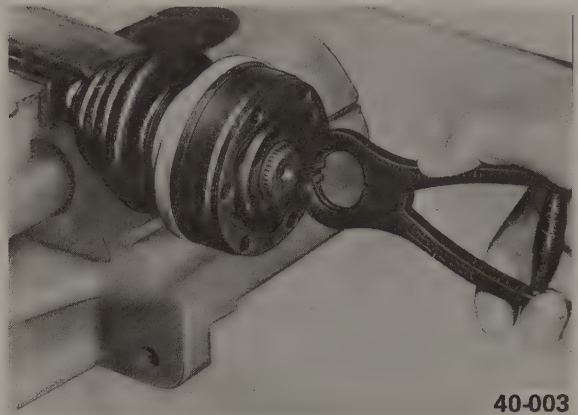

Fig. 5-7. Removing circlip which holds inner CV joint to axle shaft.
1. Remove the circlip from the end of the axle shaft, as shown in Fig. 5-7.